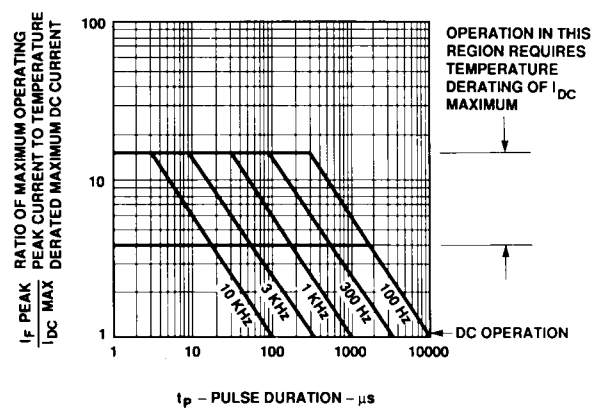

Figure 2. Maximum Tolerable Peak Current vs. Pulse Duration - AlGaAs Red.
1. See Figure 2 to establish pulsed conditions.